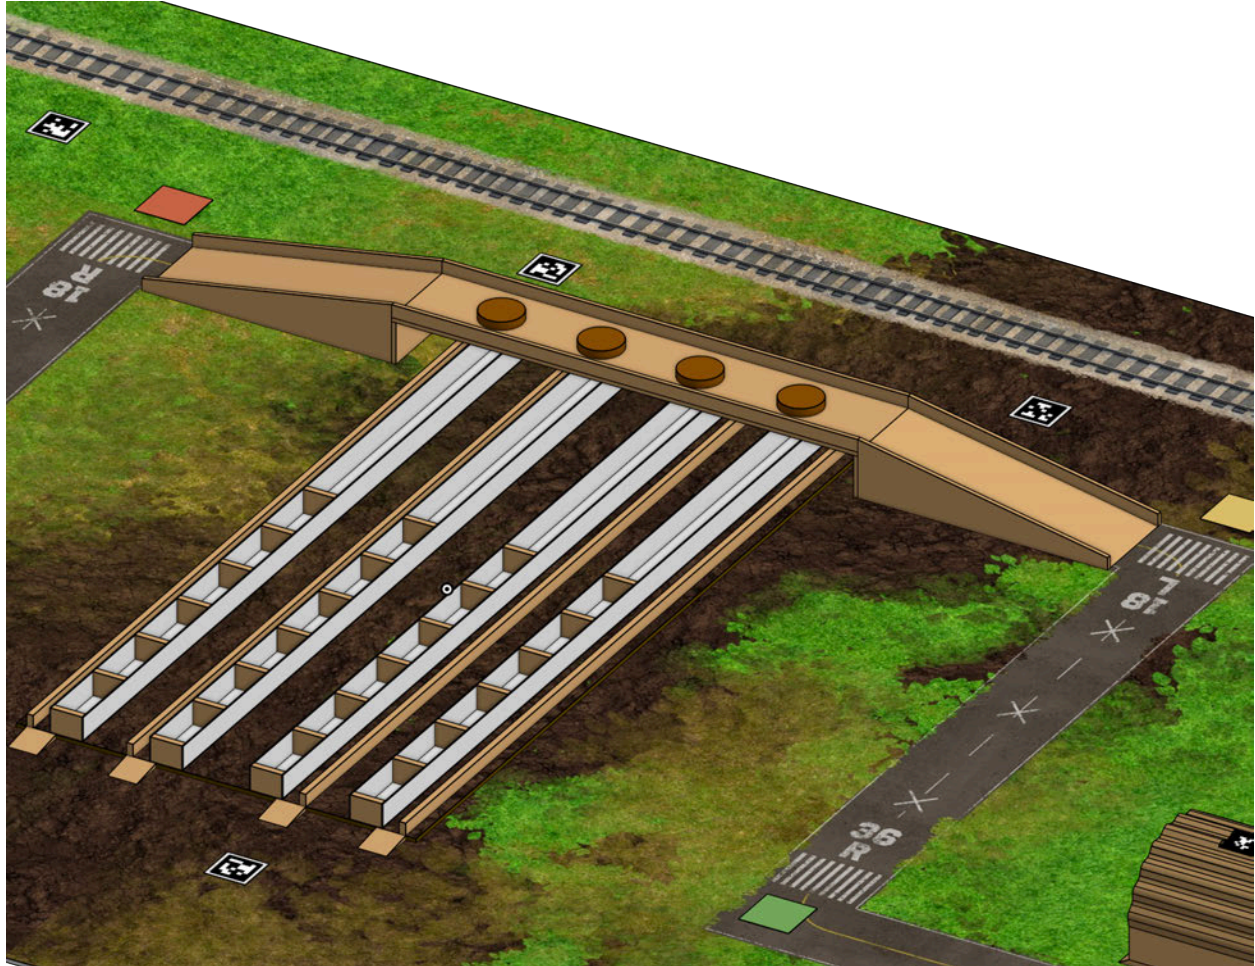

Figure 37: Bridge showing Bridge Coasters and Bridge Image Locations used during Mission 2.
Bridge – A Field Element used during Seeding Sprint. The RVR travels over the Bridge to remove four (4) Bridge Coasters covering the Bridge Image Locations. Once the images are uncovered, DEXI-5 scans the Bridge Images to determine which three (3) Cultivated Rows are active and ready for planting during that Match. See Figure 37 below. See Appendix A for more information.